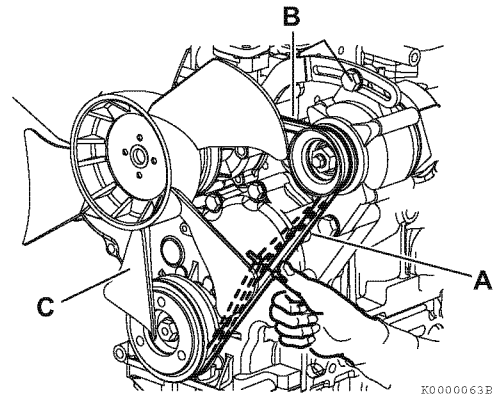

Figure 5-4
There are three positions to check for V-belt tension (**Figure 5-4, (A), (B)** and **(C)**). You can check the tension at whichever position is the most accessible. The proper deflection of a used V-belt at each position is: